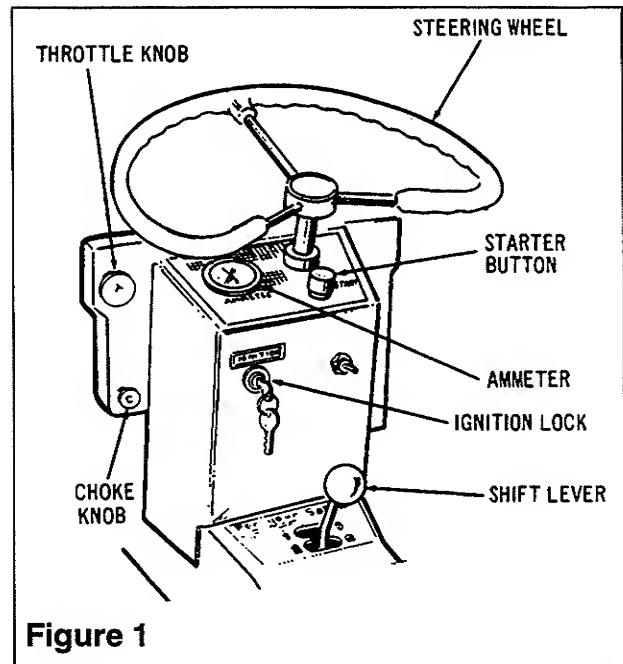

Figure 1
1. Place gear shift lever in neutral position. See Figure 1.
2. Place choke lever in "ON" position. See Figure 1.
3. Set throttle lever in mid position and turn ignition key to "ON". See Figure 1. Press starter button to start engine and release. As engine warms up, return choke lever to "OFF" position.
3. Place choke lever in "ON" position. See Figure 1.
4. Place throttle lever in mid position and turn ignition key to "ON" position. See Figure 1.
To place gear shift in desired gear range, depress the combination brake and Clutch pedal located on right hand side of tractor. See Figure 3. When pedal is depressed move shift lever to desired position (see Figure 1) and gradually release pedal until clutch is engaged. When shifting from one range to another, pause briefly in neutral before completing shift. Set throttle lever to obtain desired speed. See Figure 1.